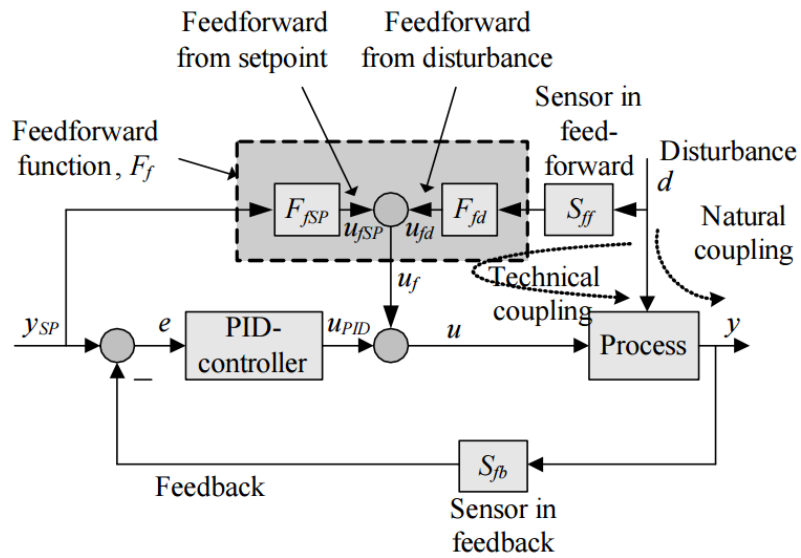

Figure 4
- a) (10%) Feedforward control is a control method where there is a coupling from the setpoint and/or from the disturbance directly to the control variable. The purpose of feedforward control is to obtain an improved compensation for disturbances and improved setpoint tracking compared with feedback control. Feedforward control is typically used together with feedback control. Figure 4 shows the structure of a control system with both feedforward and feedback control. (The purpose of feedback control is to reduce the control error due to the inevitable imperfect feedforward control. Practical feedforward control can never be perfect, because of model errors and imprecise measurements.)